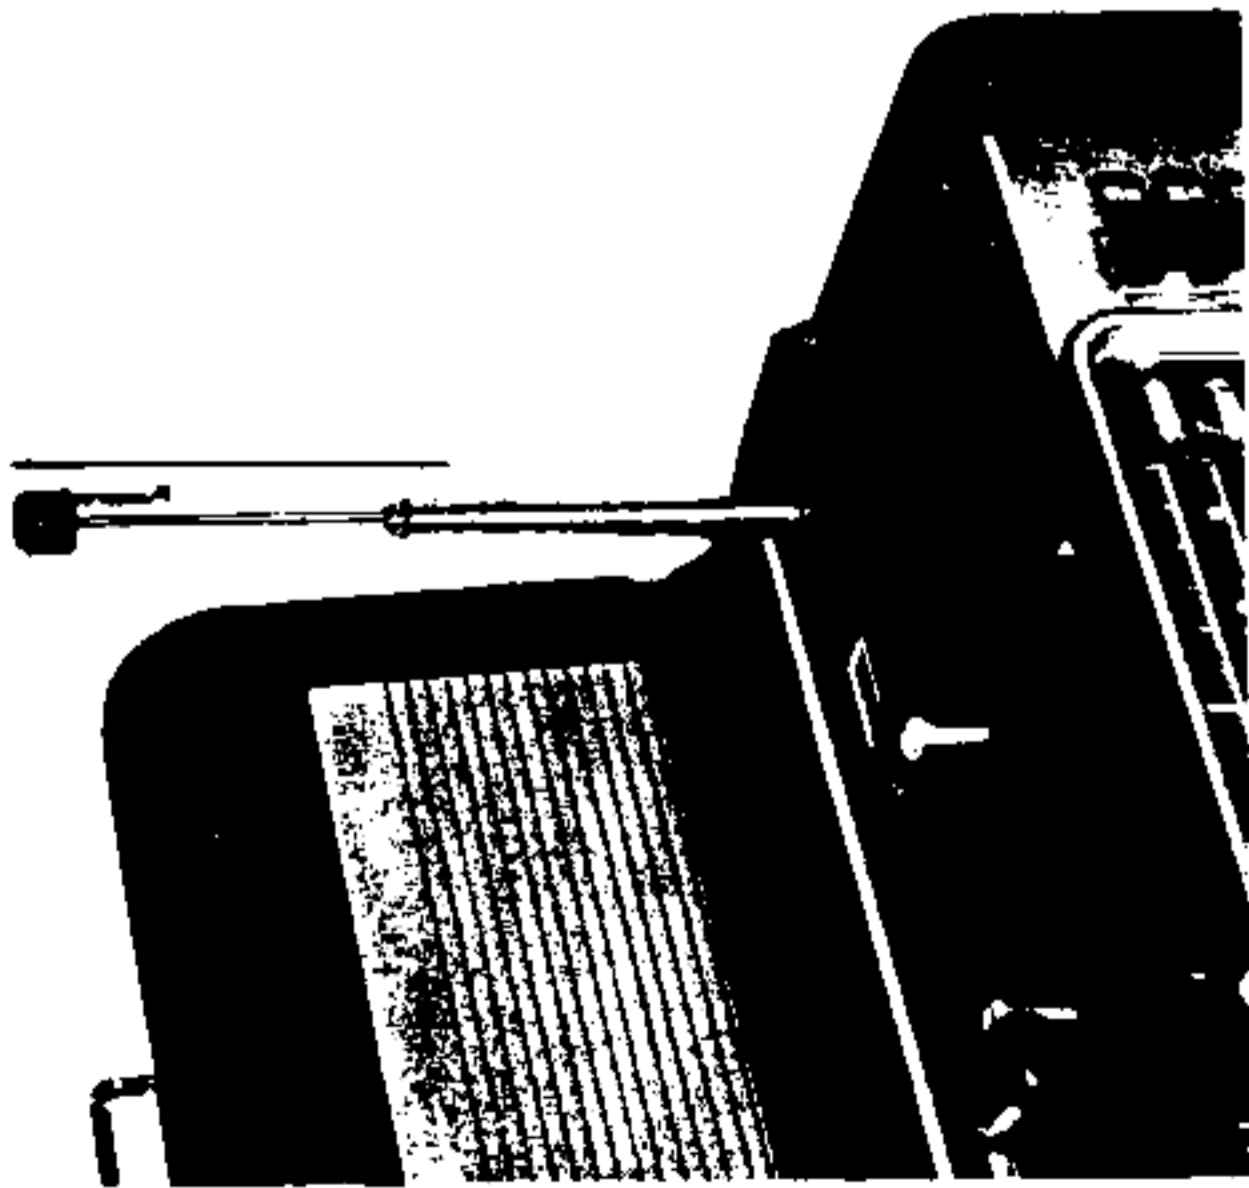

Figure 18—Waverod Must Be Extended for Shortwave Reception.
- B. Turn Waverod button and extend the Waverod to its full length. (See Figure 18.) When it is fully extended it should be approximately four feet above the cabinet.